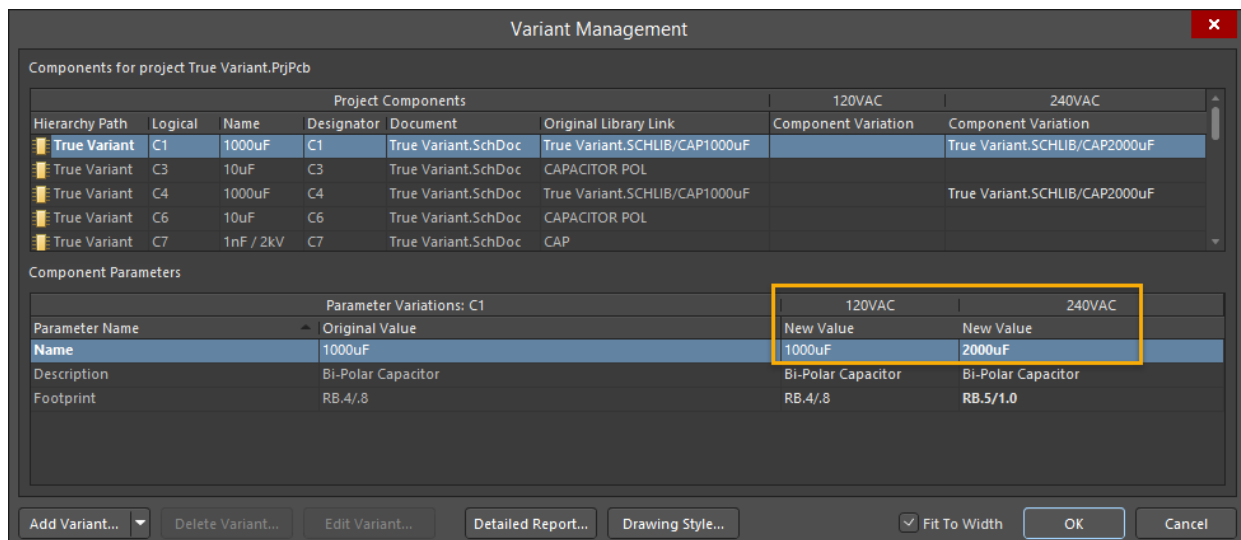

Figure 13. Alternate Part Assignment
39. Ensure that the 120VAC column still has both the original C1 and C4 assigned to 1000uF capacitors and the 240VAC column has both C1 and C4 assigned to 2000uF as shown in Figure 13.